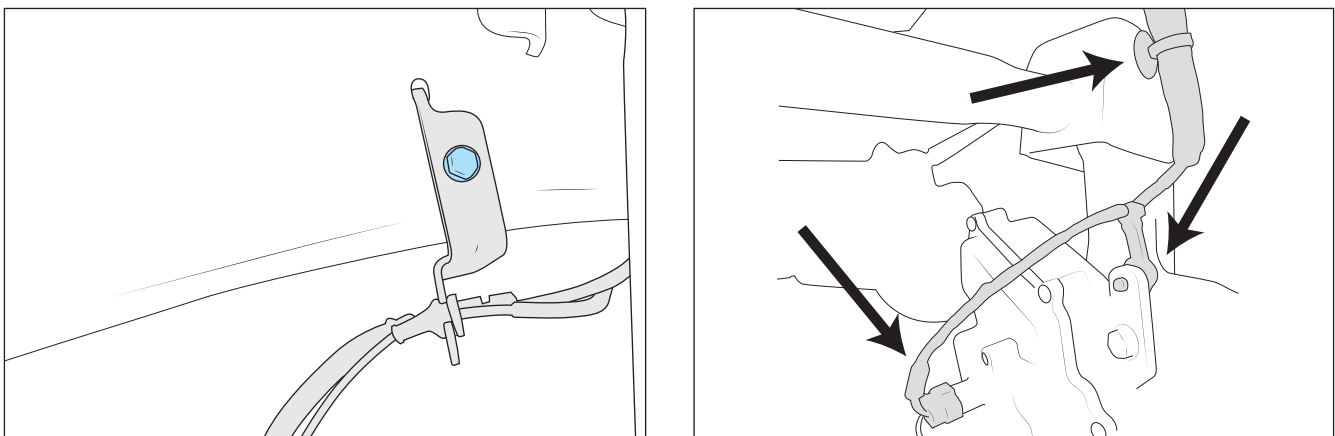

Figure 17: Brake Line Bracket (left) Axle Disconnect (right)
4. Disconnect brake line brackets at frame, electrical connector for axle disconnect, and push fastener for axle disconnect to allow extra droop (Fig 17).